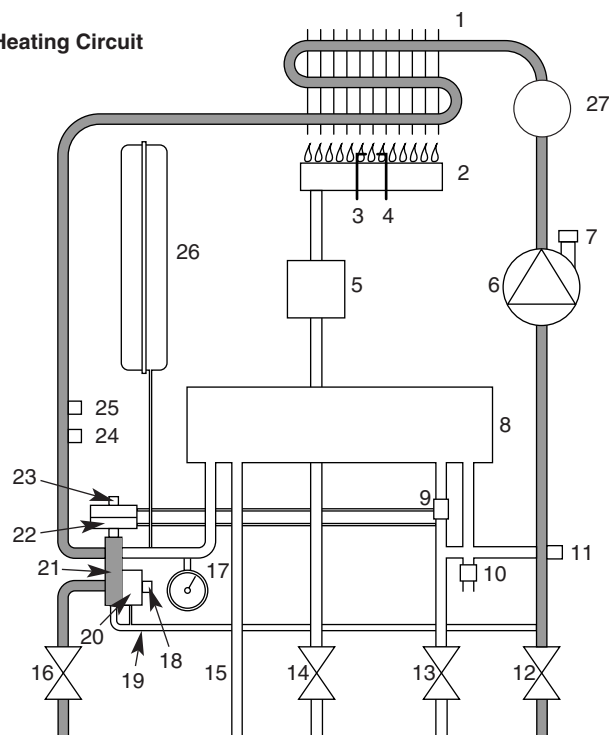

Fig. 4
3.1 Central Heating Mode (Fig. 4)